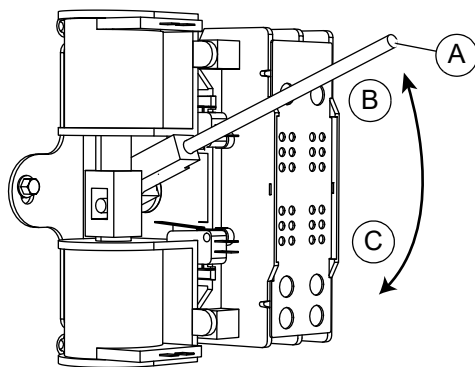

Figure 4-4. Manual Transfer Switch Operation (Typical)
4. See Figure 4-4. Use manual transfer handle (A) inside transfer switch to set main contacts to STANDBY (loads connected to standby power source) (C).